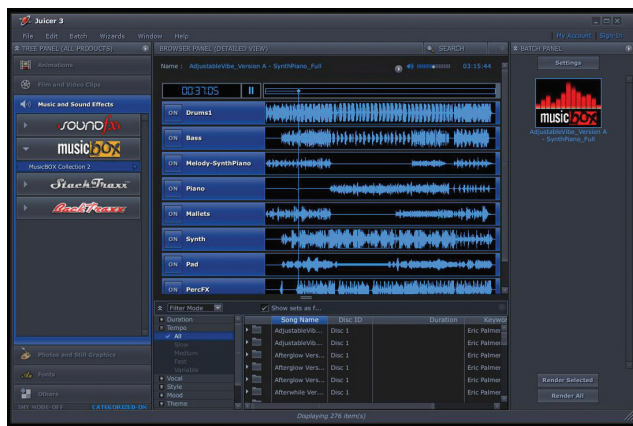

Figure 1
- J. The CD and an 8½" x 11" notebook are turned in to the event coordinators. The notebook is presented and organized in a professional manner. A standard three (3)-ring binder, with a clear front sleeve for a cover page, is required. The cover page must include the event title, the conference city and state, and the year. The inside of the binder must include the following single-sided, 8½" x 11" pages, in this order:
1. Title page with the title of the musical piece, the event title, the conference city and state, and the year; one (1) page
3. Plan of Work log that indicates preparation for the event, as noted by date, task, time involved, team member responsible, and comments (see Plan of Work log); one (1) page
4. Purpose and description of the musical piece; one (1) page
5. Team's self-evaluation of the piece using criteria from the official rating form; one (1) page
7. Audio CD(s) track list: Each actual instrument, voice, and/or synthesized instrument track used in the final music piece must be illustrated graphically using a timeline format similar to that shown below in Figure 1.